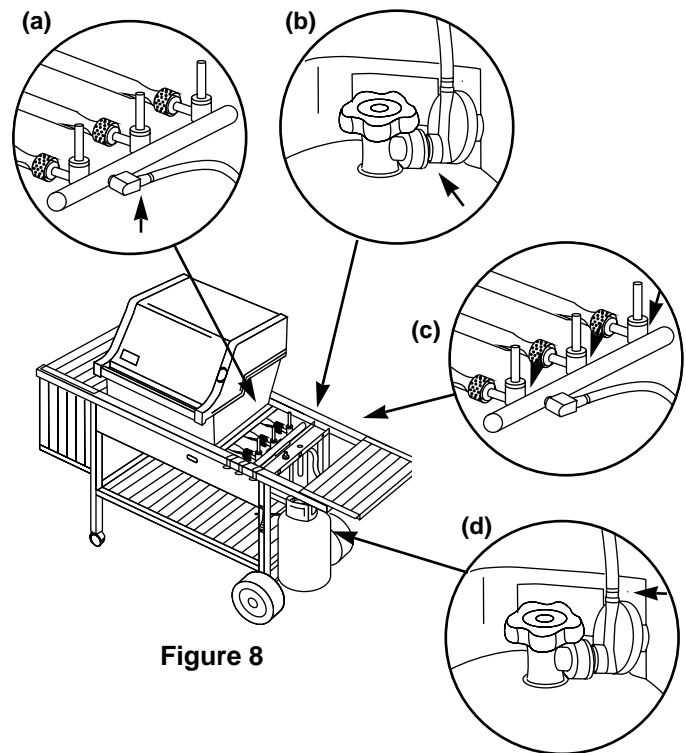

Figure 8
- Hose to manifold connections. Figure 8 (a).
- Regulator to tank connection. Figure 8 (b).
- Valves to manifold connection. Figure 8 (c).
- Hose to regulator connection. Figure 8 (d).